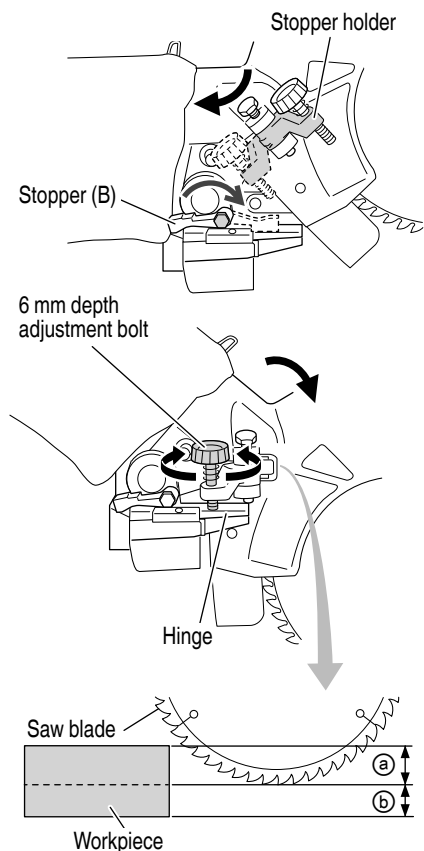

Fig. 50
Grooves in the workpiece can be cut by adjusting the 6 mm depth adjustment bolt (Fig. 50).
- (1) Turn the stopper holder on the direction shown in Fig. 50. Lower the motor head, and turn the 6 mm depth adjustment bolt by hand. (Where the head of the 6 mm depth adjustment bolt contacts the hinge.)
- (2) Adjust to the desired cutting depth by setting the distance between the saw blade and the surface of the base (Fig. 50).